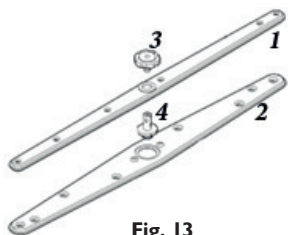

Fig. 13
- remove the washing arms (Fig. 13) (bottom and top 1 and 2) by loosening the screws (3 and 4) and clean under the current water